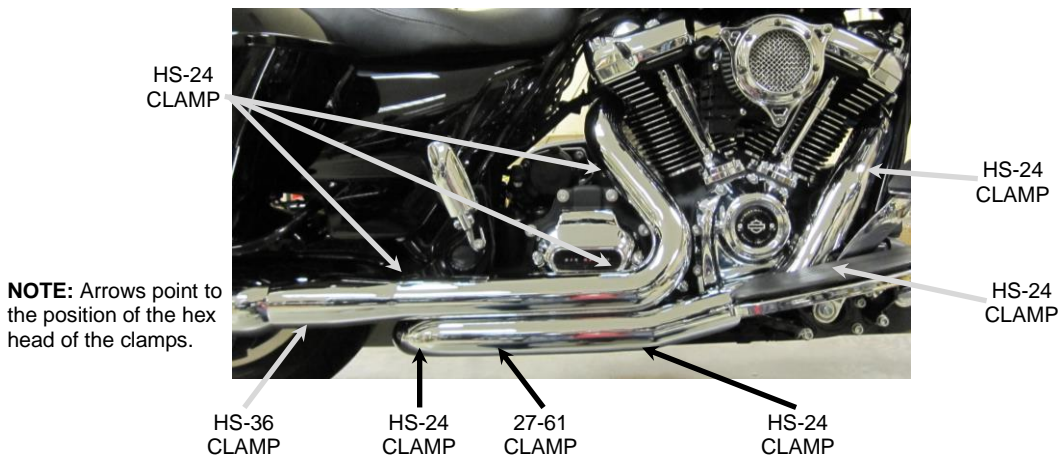

FIGURE 8
22. Remove the heatshields and hose clamps from packaging. Unscrew the hose clamps and feed the tail end of the clamps through the clips on the inside of the heatshield so the screws are accessible with a screwdriver once the heatshield is installed. The large HS-36 hose clamp goes on the rear clip on the rear heatshield. See **FIGURE 8 & 9** for proper positioning of the clamps on the heatshields. (NOTE: **The arrows point to the positioning of the hex head of the clamps.** The hex head of the clamps should be accessible for tightening but not visible when the heatshields are mounted to the pipes.)
23. Install the right rear heatshield over the rear headpipe. (Hint: Spread the hose clamps apart slightly to make it easier to slide them over the headpipes.) Align the heatshield with the headpipe and then snug the clamps but **DO NOT TIGHTEN** at this time. See **FIGURE 8**.
24. Install the right front heatshield over the right front headpipe. (Hint: Spread the hose clamps apart slightly to make it easier to slide them over the headpipes.) Align the heatshield with the headpipe and then snug the clamps but **DO NOT TIGHTEN** at this time. See **FIGURE 8**